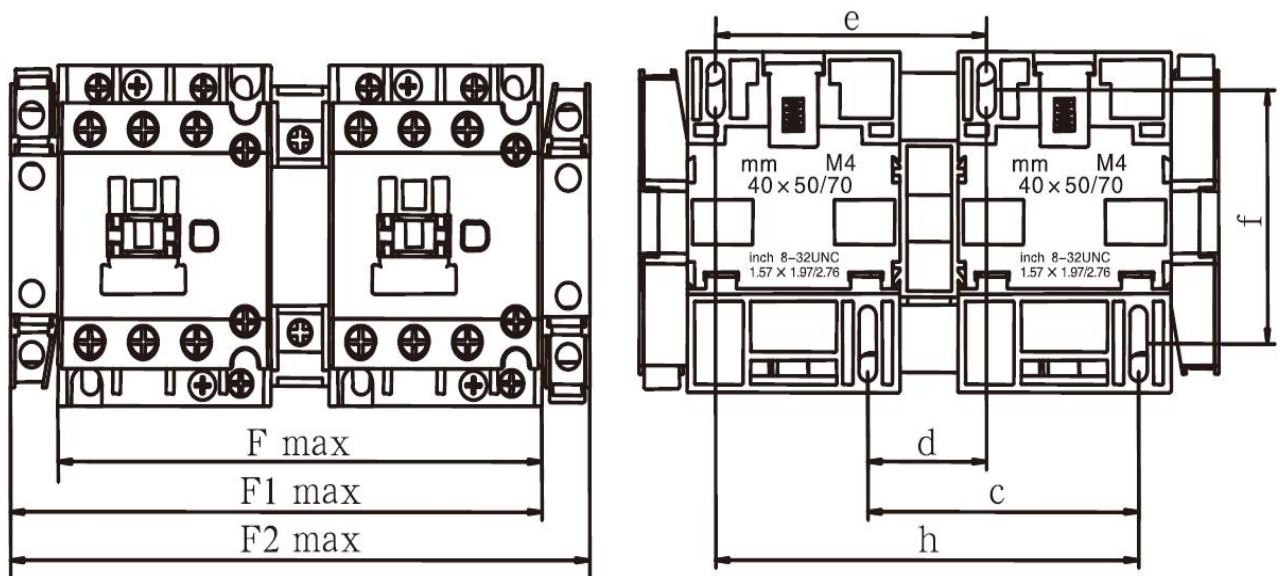
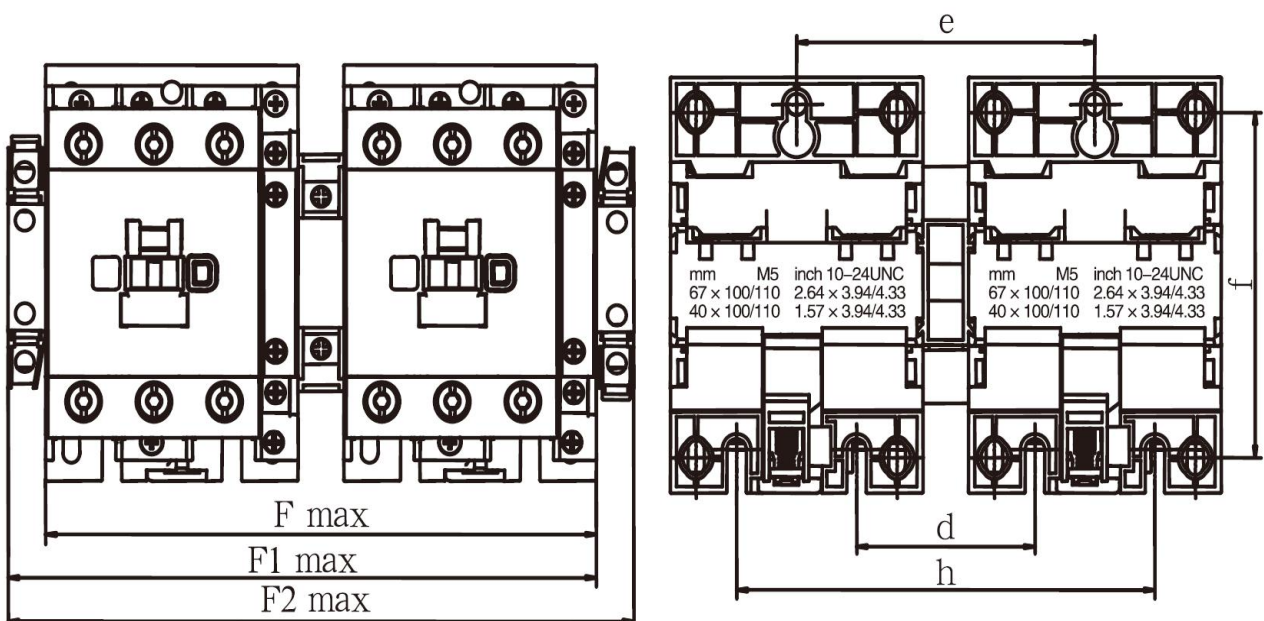

Figure 7 CjX2s(K)-09N~38N
Figure 8 CjX2s(K)-40N~95N
- Outline and installation size of the reversible AC contactor are shown in Figure 7, Figure 8 and Table 4